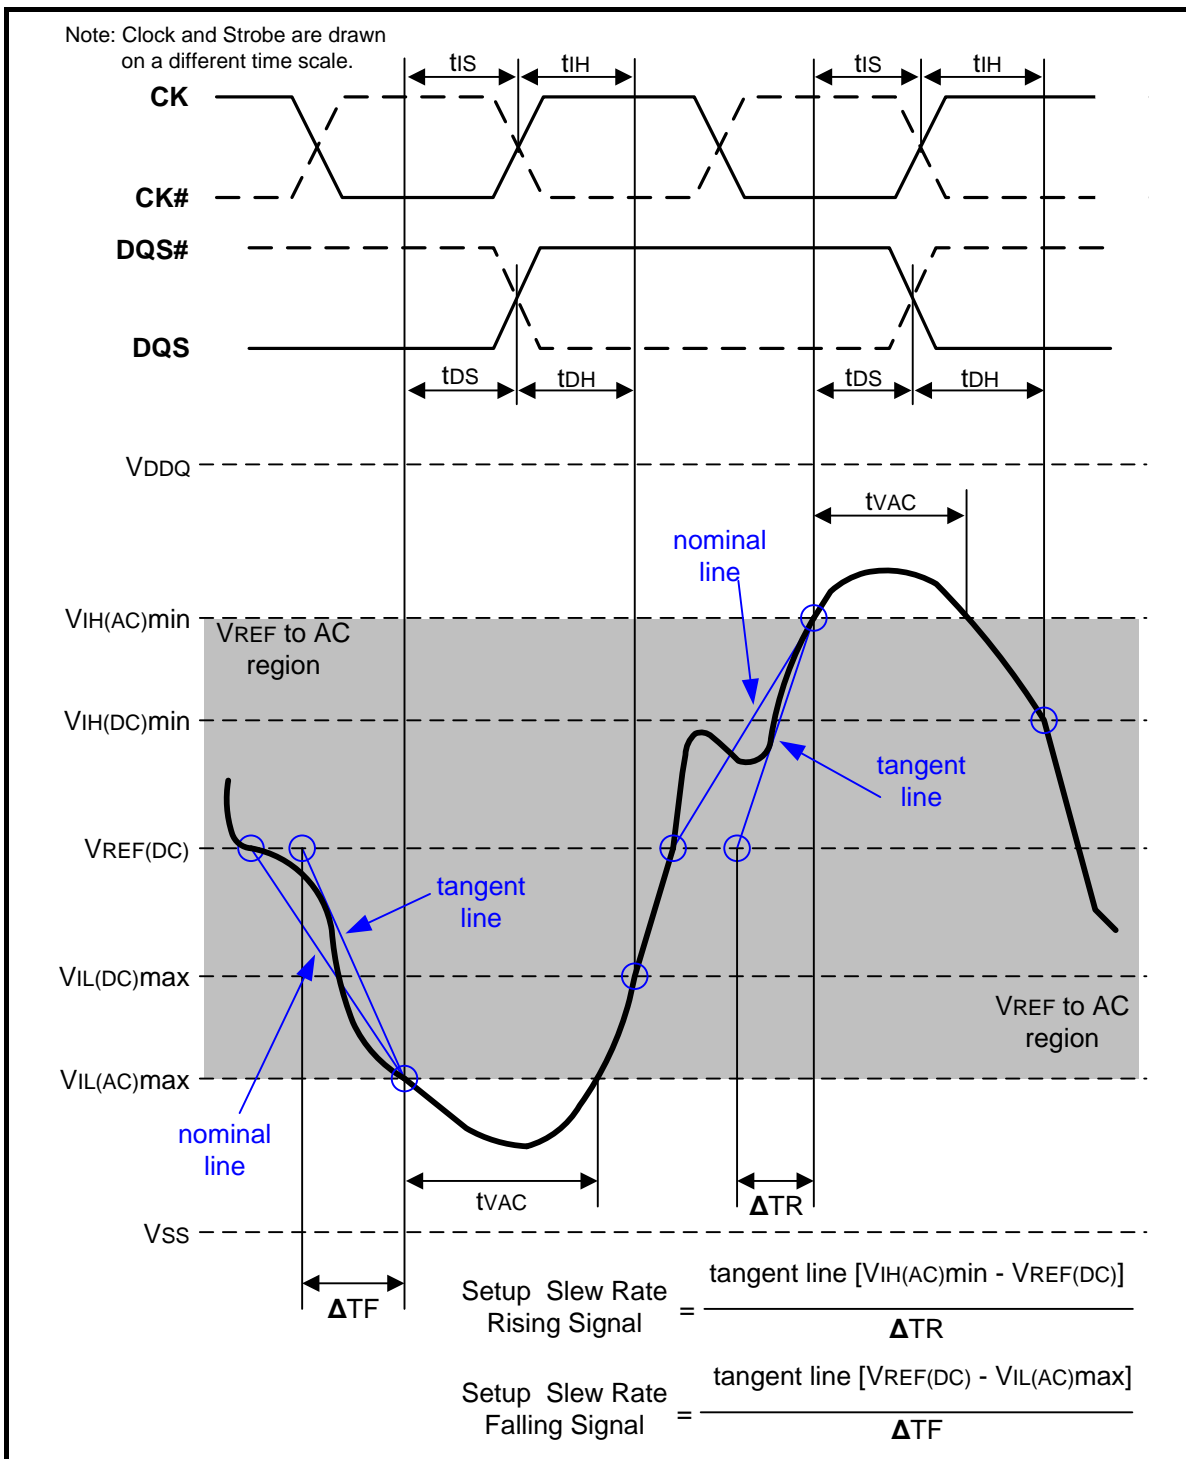

Figure 109 – Illustration of tangent line for setup time  $t_{DS}$  (for DQ with respect to strobe) and  $t_{IS}$  (for ADD/CMD with respect to clock)
Setup ( $t_{IS}$ ) nominal slew rate for a rising signal is defined as the slew rate between the last crossing of  $V_{REF}(\text{DC})$  and the first crossing of  $V_{IH}(\text{AC})_{\text{min}}$ . Setup ( $t_{IS}$ ) nominal slew rate for a falling signal is defined as the slew rate between the last crossing of  $V_{REF}(\text{DC})$  and the first crossing of  $V_{IL}(\text{AC})_{\text{max}}$ . If the actual signal is always earlier than the nominal slew rate line between shaded 'VREF(DC) to AC region', use nominal slew rate for derating value (see Figure 107). If the actual signal is later than the nominal slew rate line anywhere between shaded 'VREF(DC) to AC region', the slew rate of a tangent line to the actual signal from the AC level to  $V_{REF}(\text{DC})$  level is used for derating value (see Figure 109).
Setup (tDS) nominal slew rate for a rising signal is defined as the slew rate between the last crossing of VREF(DC) and the first crossing of VIH(AC)min. Setup (tDS) nominal slew rate for a falling signal is defined as the slew rate between the last crossing of VREF(DC) and the first crossing of VIL(AC)max (see Figure 107). If the actual signal is always earlier than the nominal slew rate line between shaded 'VREF(DC) to AC region', use nominal slew rate for derating value. If the actual signal is later than the nominal slew rate line anywhere between shaded 'VREF(DC) to AC region', the slew rate of a tangent line to the actual signal from the AC level to VREF(DC) level is used for derating value (see Figure 109).